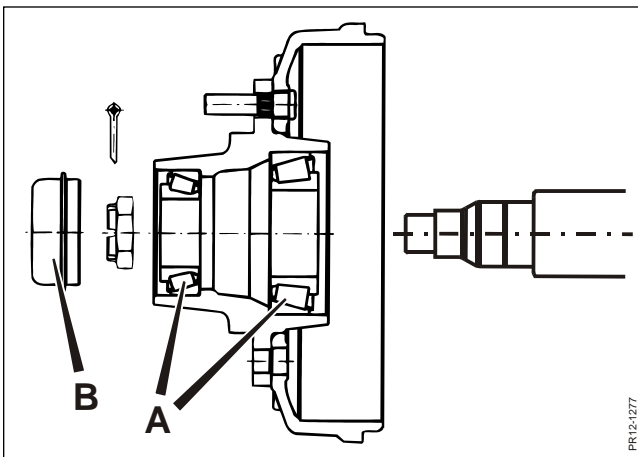

Fig. 6.4
- Fig. 6.4** Disassemble hubs.